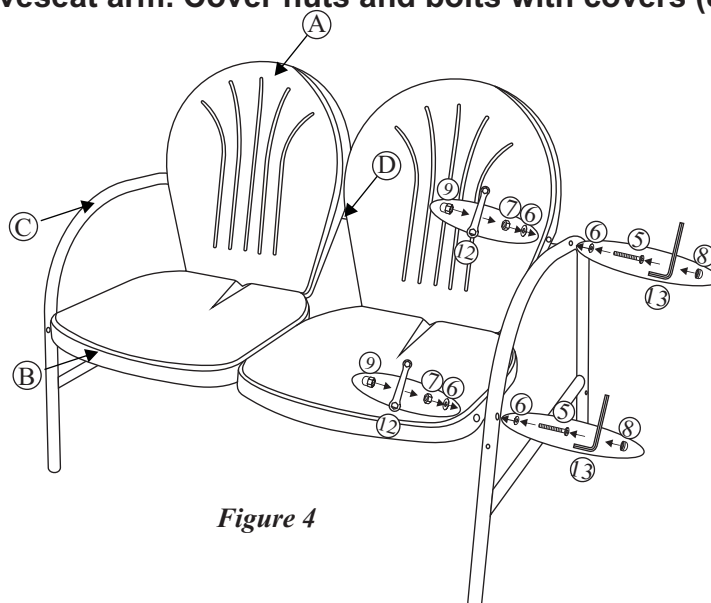

Figure 4
Step 4: Attach arm (C) to seat (B) and back (A) using 1/4"x42mm bolts (5), two Ø 6.5 x 1.0 washers (6), and 1/4" nuts (7) as shown in (Figure 4). Tighten with hex wrench (12) and Allen Key (13). Do not over tighten. Repeat for remaining Loveseat arm. Cover nuts and bolts with covers (8 & 9).